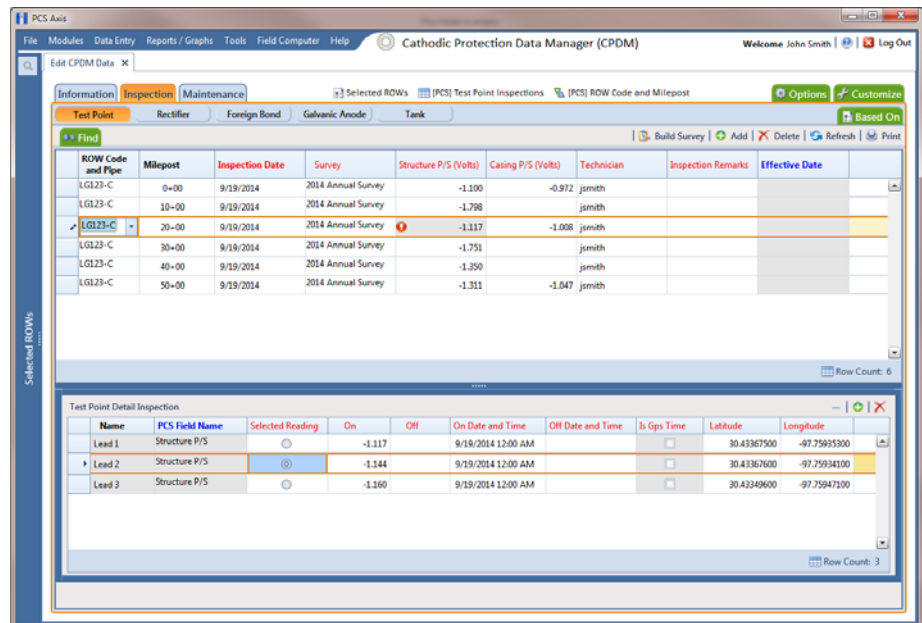

Figure 7-98. Test Point Detail Inspection Mini-Grid
- c Select a test point record in the *Inspection* grid that includes survey points you want to add potential measurements (Figure 7-98).